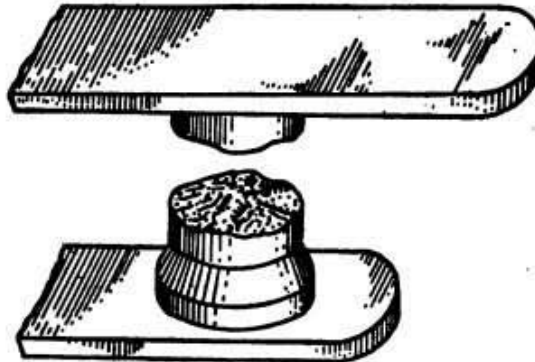

Figure 76. Burned and pitted contact points.
(3) DEFECTIVE BOOSTER COIL. The contacts of the booster coil are subject to a moderate amount of burning and should be inspected if this trouble occurs. If the points are badly pitted or burned as shown in figure 76, the coil must be replaced.